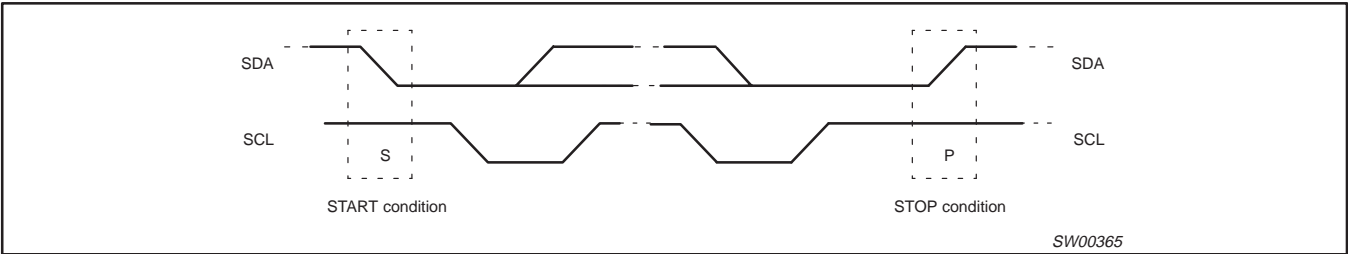

Figure 8. Definition of start and stop conditions
Both data and clock lines remain HIGH when the bus is not busy. A HIGH-to-LOW transition of the data line, while the clock is HIGH is defined as the start condition (S). A LOW-to-HIGH transition of the data line while the clock is HIGH is defined as the stop condition (P) (see Figure 8).